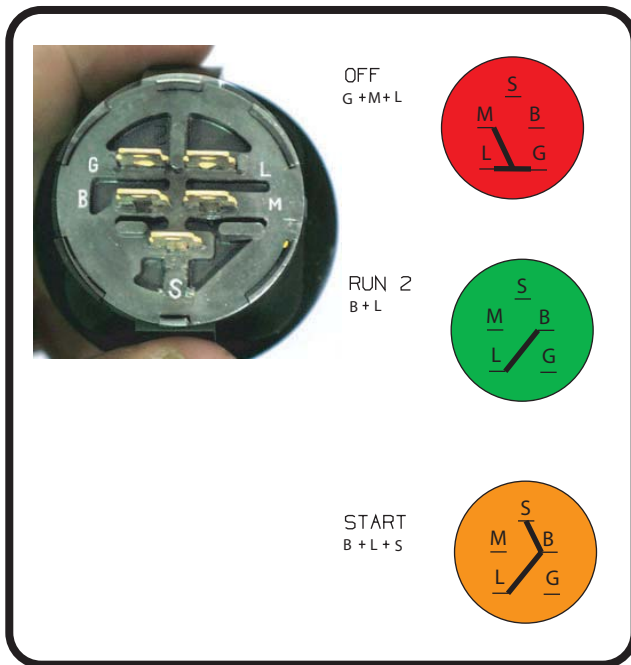

Figure 6.1
The Key Switch is the same key switch that is on all Cub Cadet RZT mowers. See Figure 6.1.
1. In the **OFF** position, continuity can be found between the M, G, and L terminals. See Figure 6.1.